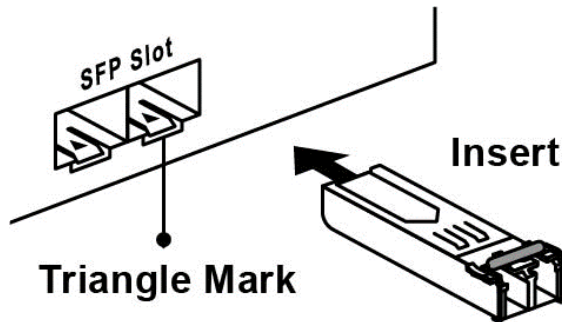
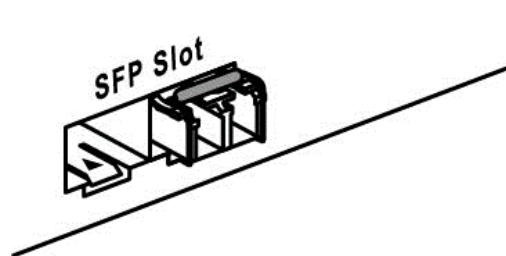

Figure 2.4: Transceiver to the SFP Module
Figure 2.5: Transceiver Inserted
Step 1 Insert the SFP transceiver module into the SFP slot as shown below in Figure 2.4. Notice that the triangle mark is at the bottom of the SFP slot. Figure 2.5 shows SFP transceiver module was inserted.